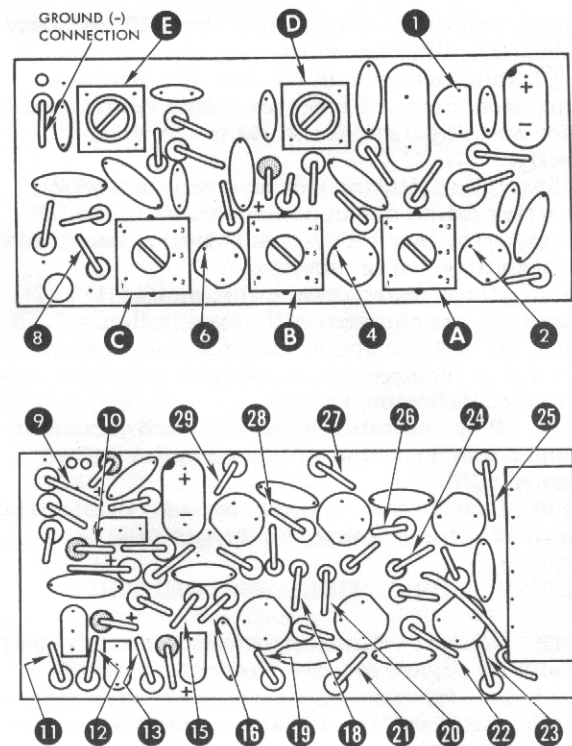

Figure 21. Tuning and Check Points (Top Side)
Figure 21 shows connection points for oscilloscope and/or voltmeter, both for tuning and for check of decoder outputs. Circled numbers on figure 21 refer to test points on schematics and to related waveforms.
□ 127. Connect oscilloscope between ground (-) and test point ⑧, figure 21. Set scope on high sensitivity scale. Readjust scope sensitivity as necessary during tuning for most usable display.
□ 131. Adjust 1st I.F. can ① (figure 21) for maximum scope amplitude. Do the same on cans ② and ③, then coils ④ and ⑤. Amplitude should show some increase or change with each adjustment.
□ 133. If receiver is showing a strong proper signal at this time, remove transmitter antenna completely and place transmitter on floor about 5 feet from receiver. Repeak cans ①, ② and ③, then coils ④ and ⑤. It is sometimes possible to get two tuning peaks on cans ① and ②. Tune for the peak which gives greatest signal amplitude.
- 139. Connect voltmeter between ground (-) and test point **(8)**, figure 21. Set meter to 6V or 10V scale.